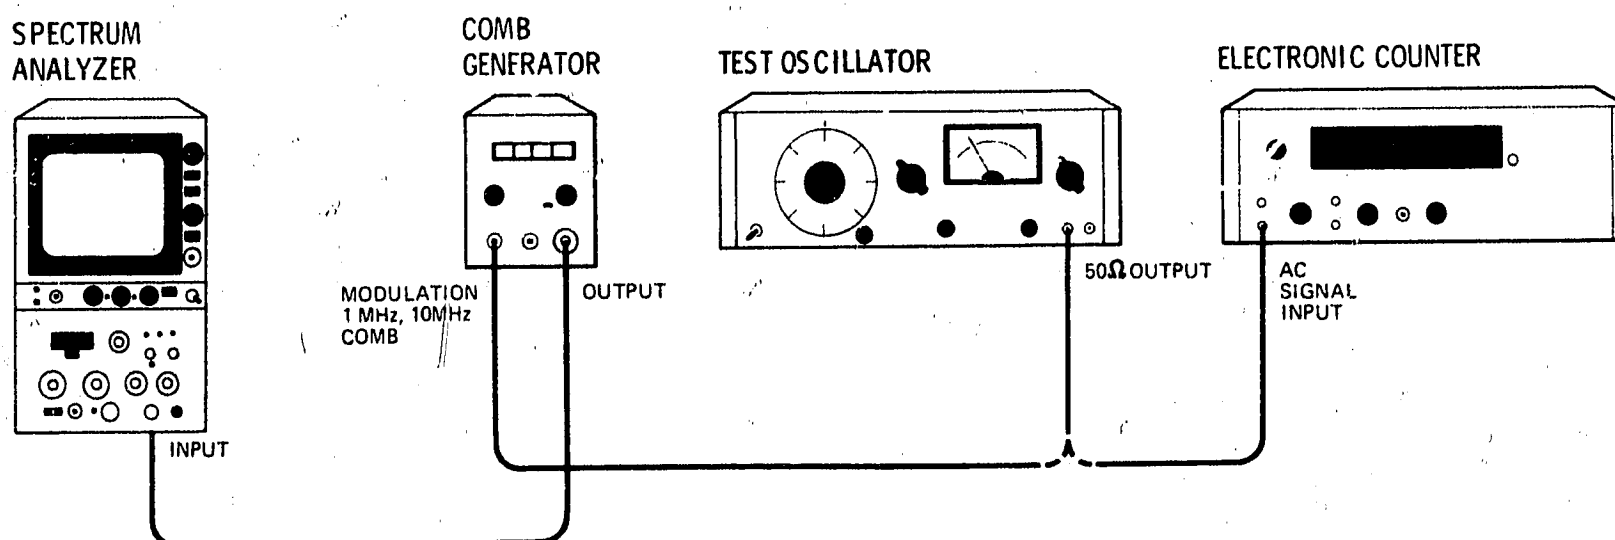

Figure 4-1. Frequency Display Span Accuracy Test Setup
2. Connect equipment as shown in Figure 4-1.